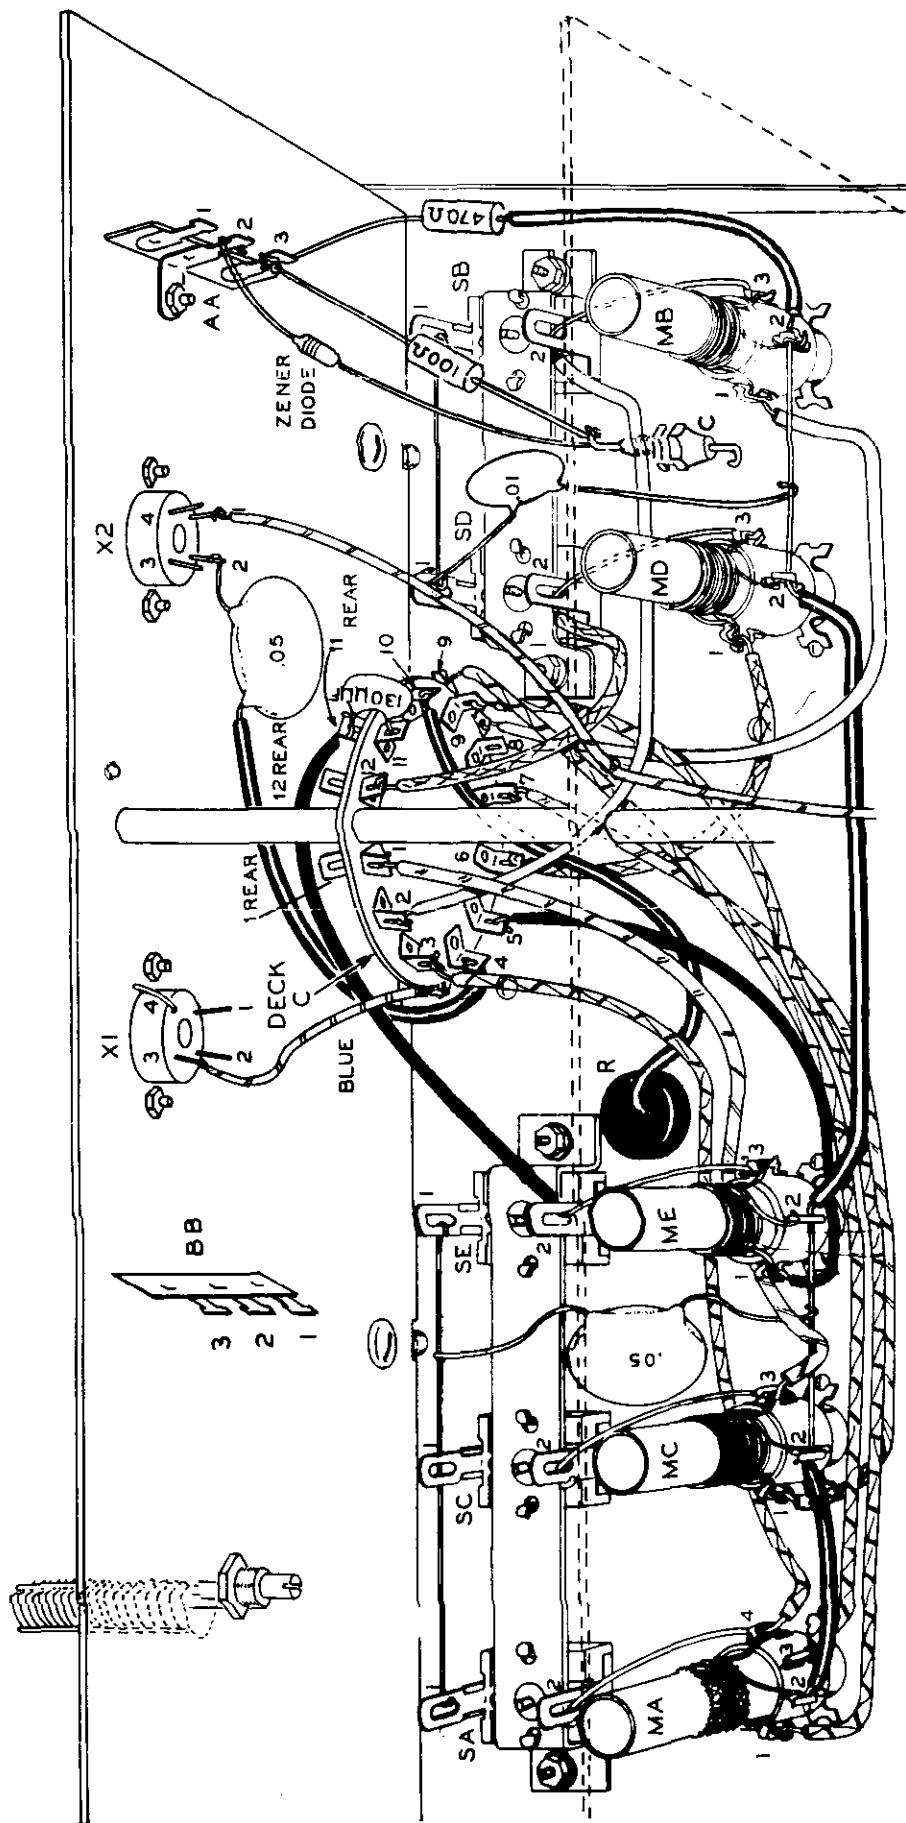

Figure 9
Refer to Figure 9 for the following steps.
- (✓) Cut each lead of a 470  $\Omega$  resistor (R6, yellow-violet-brown) to 3/4" in length. Place a 1/2" piece of sleeving over one end and connect this lead to lug 2 of coil MB (S-2). Connect the other lead to lug 3 of terminal strip AA (NS). See Figure 9.
- (✓) Cut both leads of a 100  $\Omega$  resistor (R10, brown-black-brown) to 3/8" in length. Connect one lead to lug 3 of terminal strip AA (S-3). Connect the other lead to feed-through capacitor C25 (NS).
- (✓) Cut both leads of the Zener diode to 1/2" in length. Connect the cathode (band end, see Figure 9 and Detail 9A) to lug 2 of terminal strip AA (S-3). Connect the anode lead to the feed-through capacitor C25 (NS).